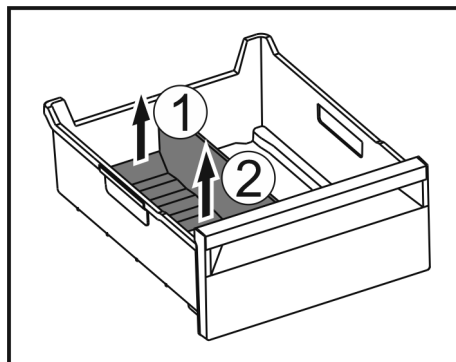

Fig. 117
- Lift the rear part of the ice compartment divider. Fig. 117 (1)
- Remove the ice compartment divider upwards. Fig. 117 (2)